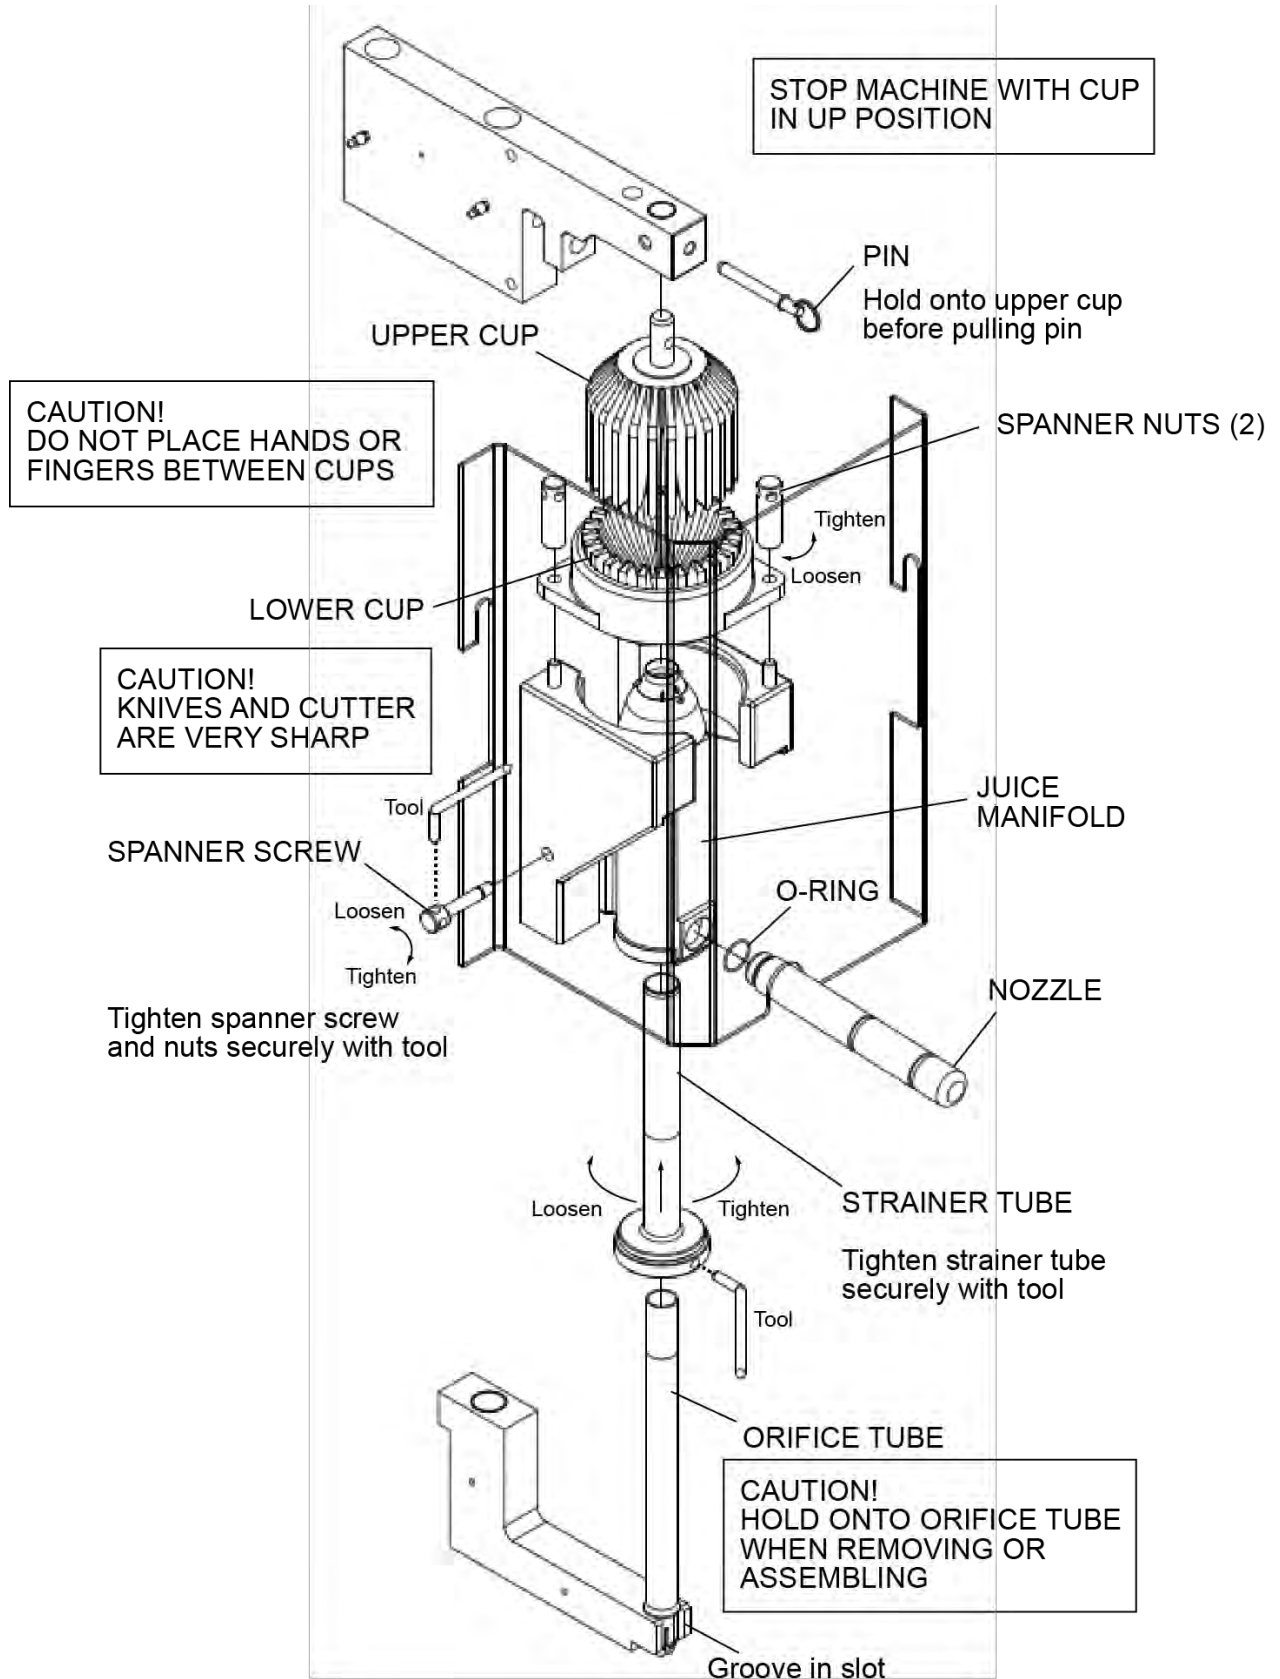

Figure 6. Removing/Replacing Juicing Components
6. Remove juicing components (see Figure 6).
Refer to Figure 6.
Disassemble juicing components (Figure 6, Page 18). Loosen set screw under front knife (make sure screw is backed out far enough to clear cutter). Cutter should lift out, if not, tap the cutter lightly from inside the juice manifold with a 1-1/4" diameter rod (hammer handle).